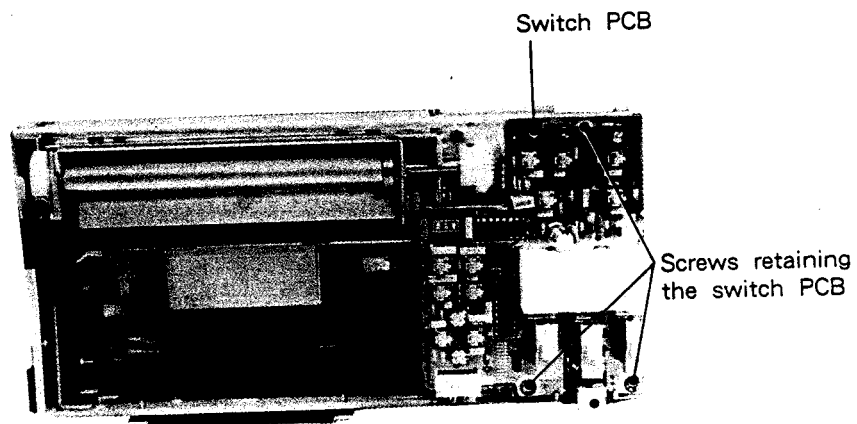

Fig. 1-5
3. Remove screws retaining the switch PCB.(Fig. 1-5)